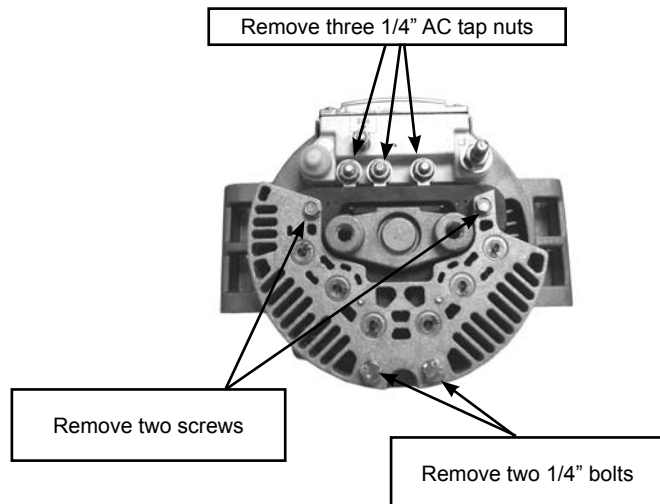

Fig 2
Step 5: Remove two screws. See Fig 2.